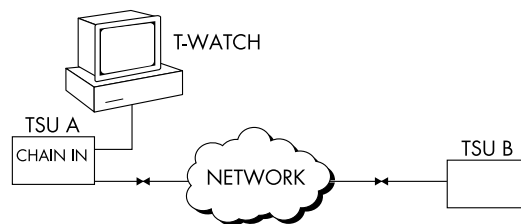

Figure 5-7. Inband Remote Configuration
- INBAND** Inband Configuration Channel - Use to enable/disable an 8-kbps remote configuration channel (see Figure 5-7 on page 46). When this option is set to **ON**, the first DS0 occupied operates in 56K mode and the DTE clock rate is reduced by 8 kbps. The TSU LT uses this 8-kbps channel to send and receive configuration data across a T1 span. As shown in Figure 5-7, this feature allows the PC connected to the Chain In port on TSU LT A to monitor and configure both TSU LT A and B. This feature is useful when FDL connectivity is not available across the T1 span. The 8-kbps channel is only taken out of the first DS0. If two 64K DS0s are mapped, the DTE rate would be 120 kbps instead of 128 kbps.
This menu option can also be set to **AUTO** which activates the Inband Channel only when commands are sent from T-Watch PRO to the remote unit (TSU LT B in Figure 5-7). If no T-Watch PRO activity is detected for 10 minutes, the Inband Channel is deactivated.